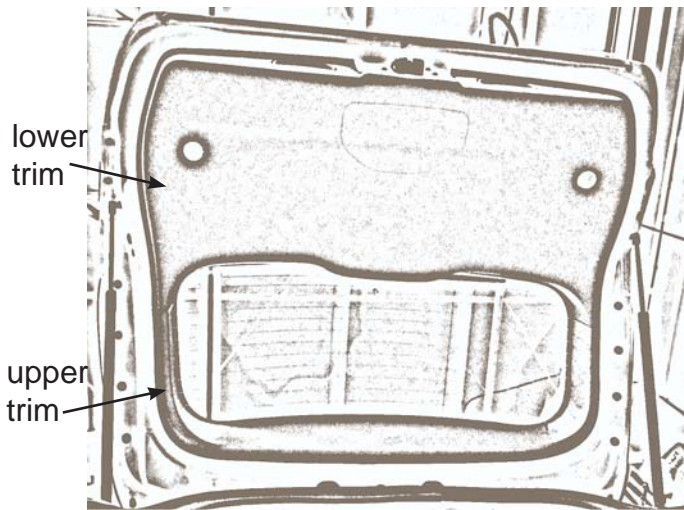

Figure 8 - hatch in open position
A. Gently pry on the upper trim panel until it is free from the vehicle. Repeat the process for the lower trim panel. (Fig. 8)